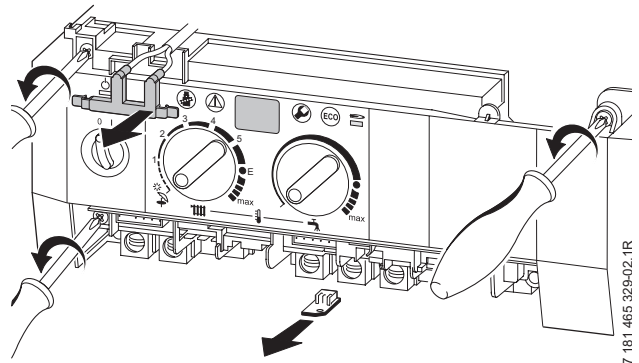

Fig. 59
- ▶ Remove two top fixing screws from the control box. Refer to fig. 59.